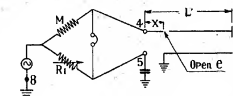

FIG 13
- (1) Connect low frequency source (<100 c/s) to the posts for external source. Set the lever switch to MUR. Connect the open wire to X_1 and ground its distant end. Ground the near end of its mate with distant end open. Connect X_2 to one terminal of a condenser with the other terminal grounded. Arrange bridge as in preceding description, but ground outer terminal of source, Balance the bridge and obtain reading R_1 (Fig 13)